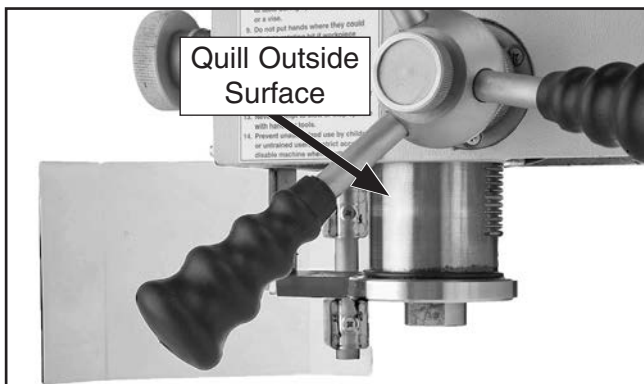

Figure 41. Outside surface of quill.
1. Without disturbing grease on quill rack, clean outside smooth surface of quill (see **Figure 41**) with mineral spirits and shop rags.